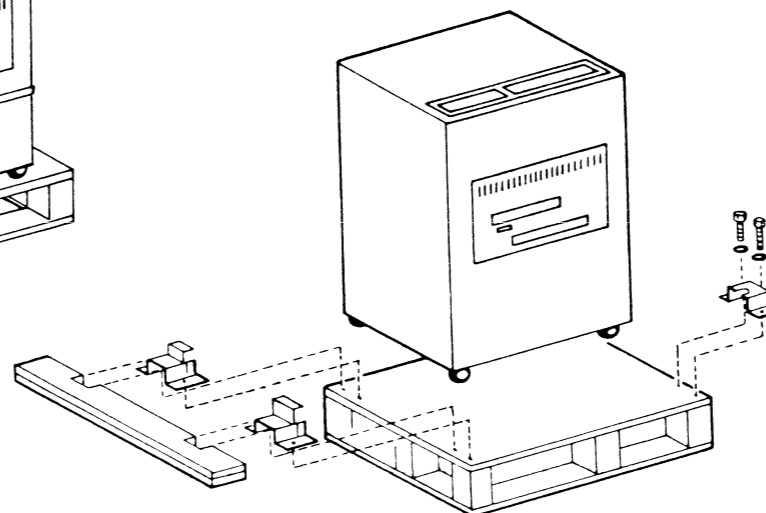

FIGURE 6
5. Remove the shipping bolts, caster clamps, and hold-down brackets securing the printer to the pallet (See Figure 6).